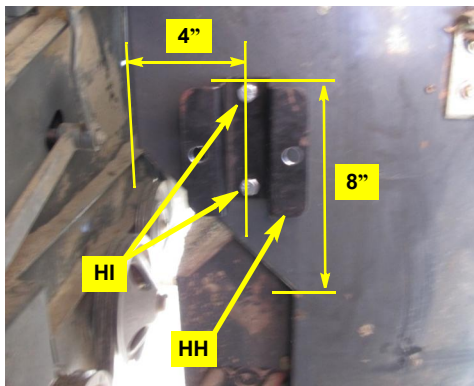

Figure 2a: Installed steering block mounting bracket - 400 series
- Set bracket **HH** so that (Figure 2a):
- Using hardware **HI**, install bracket **HH** (Figures 2a and 2b).